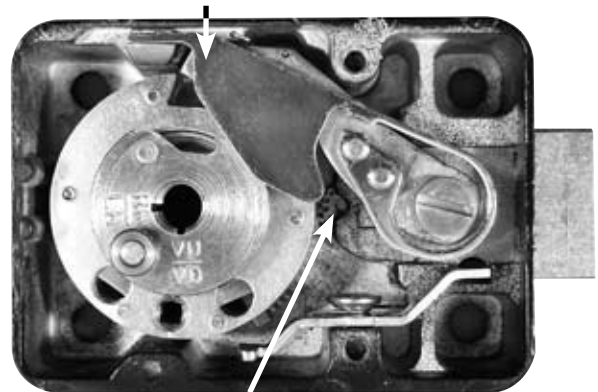

Figure 1
1. Remove the lock cover. Place the lock bolt in the extended position and the accelerator spring in the loaded position (Figure 1). **CAUTION: Do not remove the drive cam.**
The torque adjustment feature allows the wheel pack tension to be adjusted for maximum security. To adjust torque, remove the lock cover and insert a $\frac{3}{32}$ " hex wrench into the adjusting gear (see Figure 1). Turn clockwise to increase torque or counterclockwise to decrease torque. This adjustment should only be performed by a skilled technician using a specialized torque measuring tool.